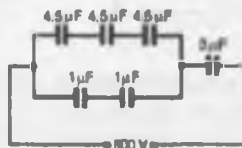

Figure 6.11
- For the arrangement shown in Fig. 6.11 find (a) the equivalent circuit capacitance and (b) the voltage across a $4.5\ \mu\text{F}$ capacitor.